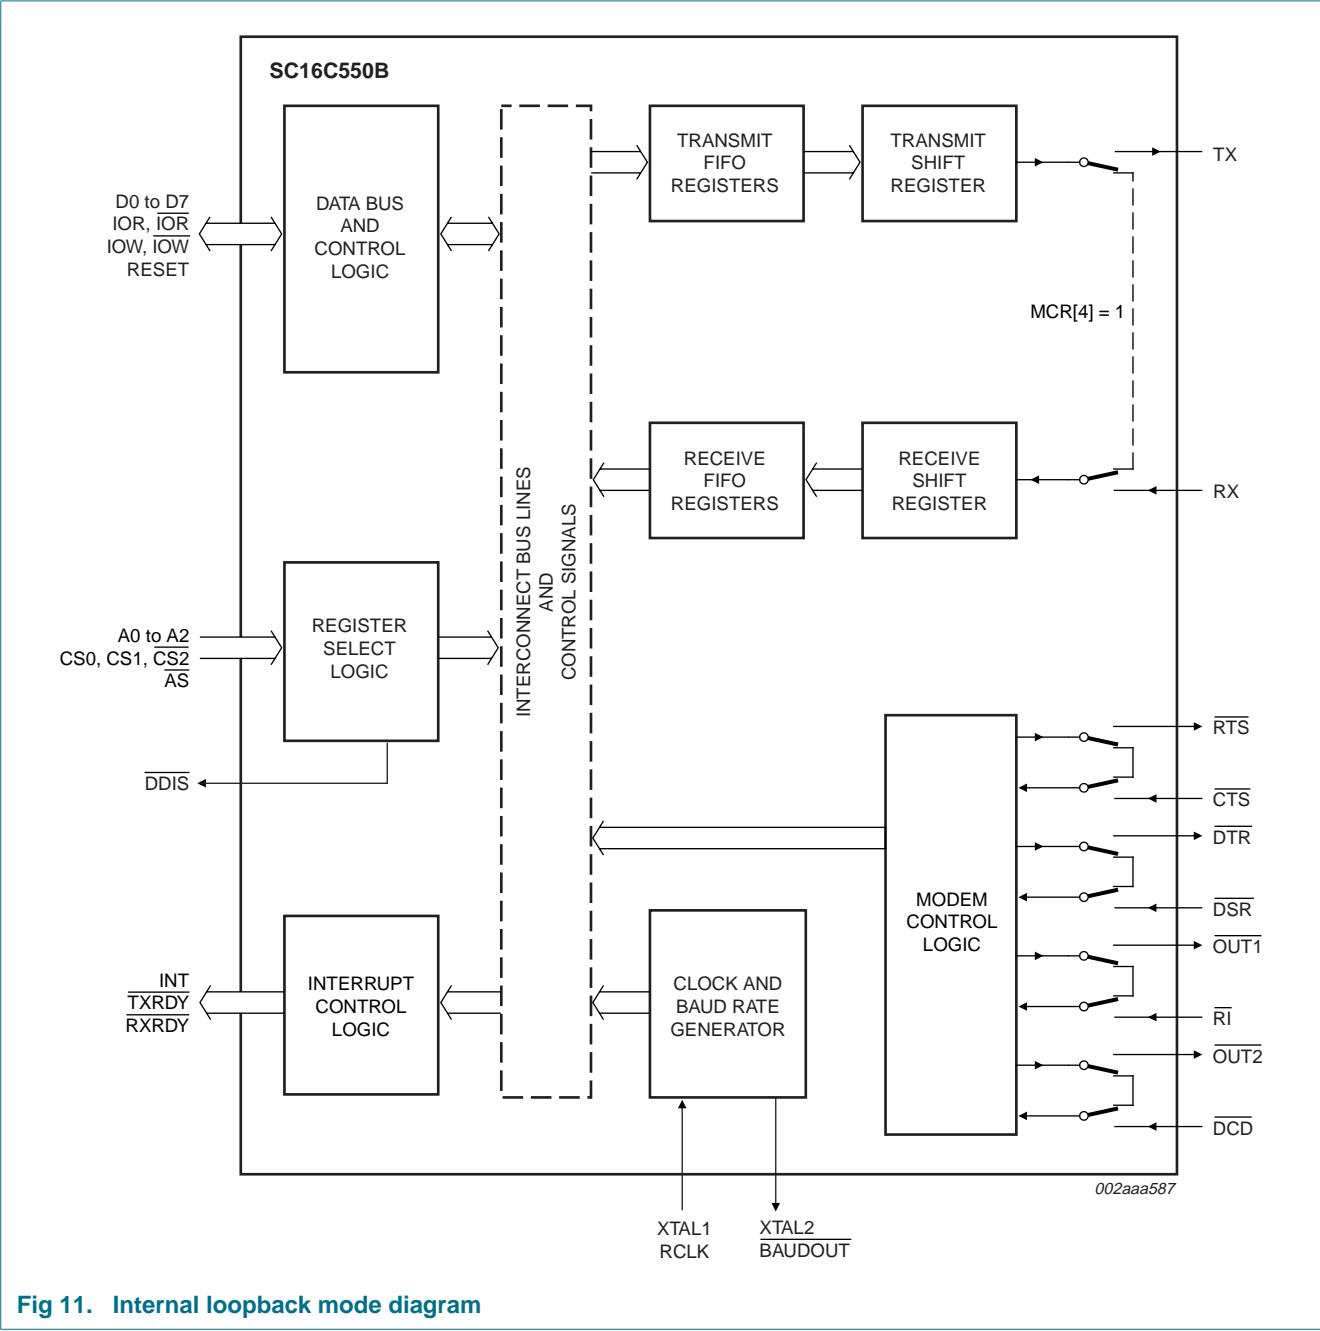

Fig 11. Internal loopback mode diagram
The internal loopback capability allows on-board diagnostics. In the loopback mode, the normal modem interface pins are disconnected and reconfigured for loopback internally. MCR[3:0] register bits are used for controlling loopback diagnostic testing. In the loopback mode,  $\overline{\text{OUT1}}$  (bit 2) and  $\overline{\text{OUT2}}$  (bit 3) in the MCR register control the modem  $\overline{\text{RI}}$  and  $\overline{\text{DCD}}$  inputs, respectively. MCR signals  $\overline{\text{DTR}}$  and  $\overline{\text{RTS}}$  (bits 0:1) are used to control the modem  $\overline{\text{CTS}}$  and  $\overline{\text{DSR}}$  inputs, respectively. The transmitter output (TX) and the receiver input (RX) are disconnected from their associated interface pins, and instead are connected together internally (see Figure 11). The inputs  $\overline{\text{CTS}}$ ,  $\overline{\text{DSR}}$ ,  $\overline{\text{DCD}}$ , and  $\overline{\text{RI}}$  are disconnected from their normal modem control input pins, and instead are connected internally to  $\overline{\text{DTR}}$ ,  $\overline{\text{RTS}}$ ,  $\overline{\text{OUT1}}$  and  $\overline{\text{OUT2}}$ . Loopback test data is entered into the transmit holding register via the user data bus interface, D0 to D7. The transmit UART serializes the data and passes the serial data to the receive UART via the internal loopback connection. The receive UART converts the serial data back into parallel data that is then made available at the user data interface D0 to D7. The user optionally compares the received data to the initial transmitted data for verifying error-free operation of the UART TX/RX circuits.